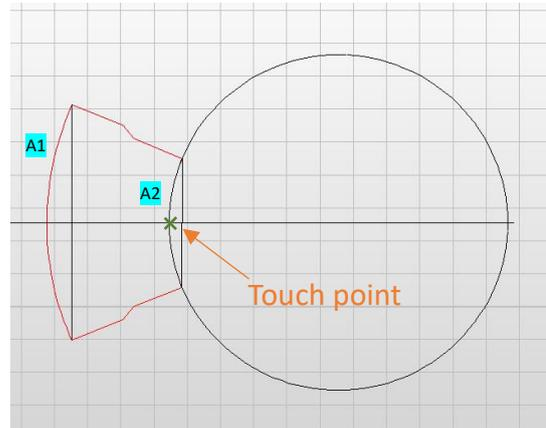

Figure 45
- 9. **SHIFT:** Shift the circle to its final position, touching the current inner arc **A2** at the symmetrical line (Figure 45).
(b) **Select shift point of objects:** Click on the point of the object you want to place on a specific position. For the shift point select the **leftmost point on the circle** at the 9 o'clock position. It should be placed on the "Touch point" shown in .Figure 45.